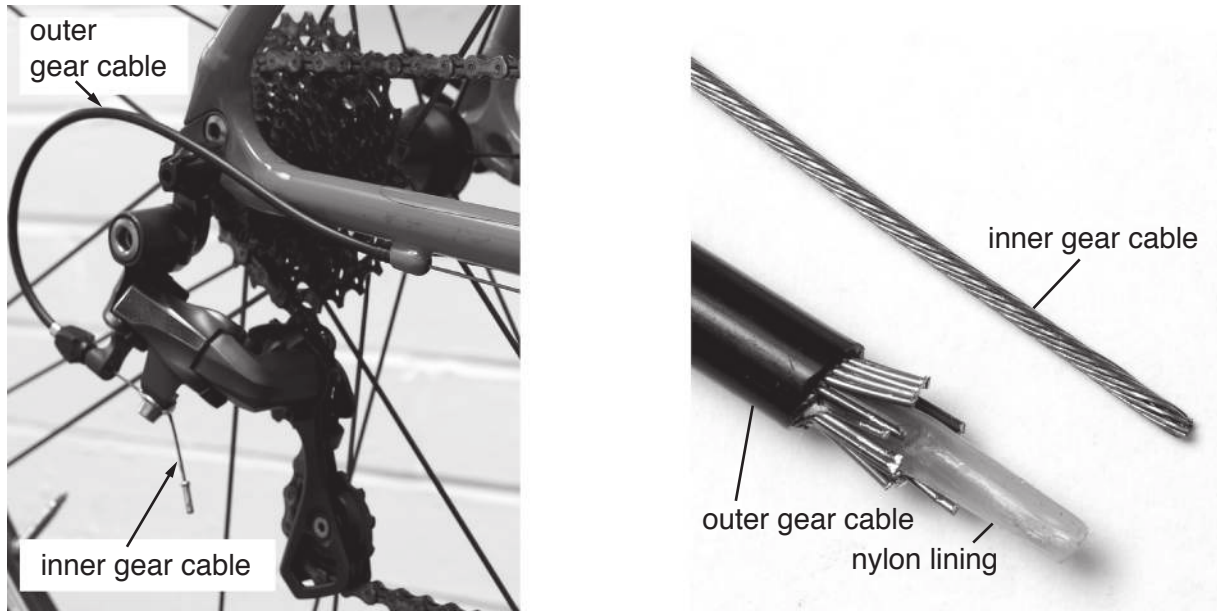

Fig. 1
- 1 Fig. 1 shows the rear derailleur gear on a cycle with a close up view of the gear cable.